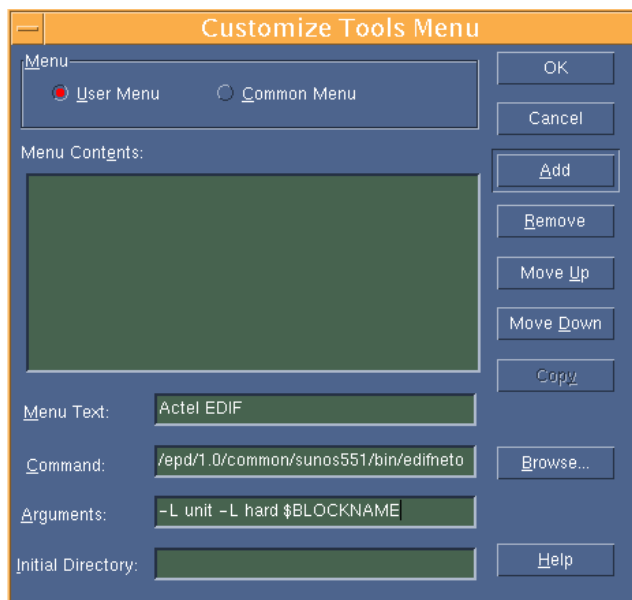

Figure 1-1. Customize Tools Menu Dialog Box
3. **Add the Actel EDIF command.** Click the User Menu radio button. In the Menu Text box, type “Actel EDIF.” In the Command box, type or use the Browse button to select: “c:\epd\2.0\wv\1999.2\win32\bin\edifneto.exe.” In the Arguments box, type “-L unit -L hard \$BLOCKNAME.” Click OK. Figure 1-1 shows the configured Customize Tools Menu dialog box.